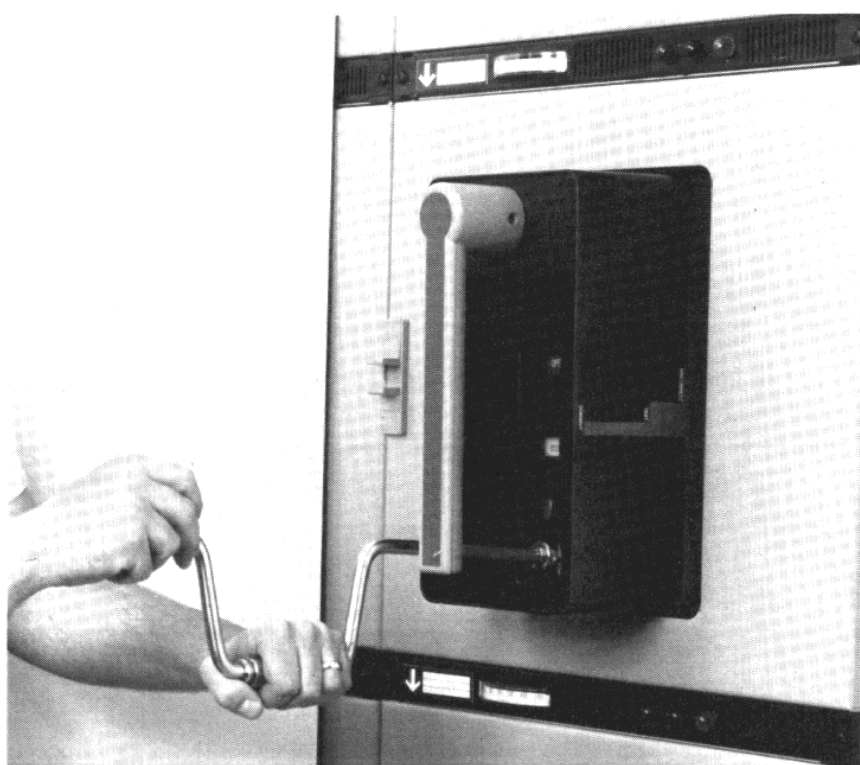

Fig. 2
- True closed door draw out (figure 2)—is standard construction with all AKD-8 switchgear equipment. The breaker compartment doors remain stationary and closed